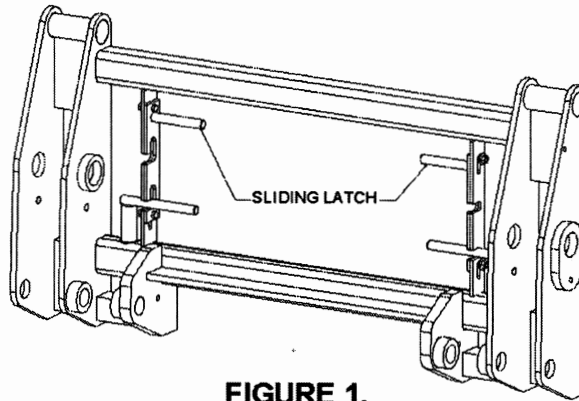

FIGURE 1.
**STEP 1** Install the front mount onto the front casting of the tractor. Tighten all bolts that secure the front mount. See Figure 1.
**STEP 1** Approach the loader slowly and place the tractor close enough to allow the connection of the hydraulic hoses. Connect the hoses to the tractor so that the loader can be operated. See Figure 1.
**STEP 1** *DRIVE ONTO FLAT, LEVEL CONCRETE.* Raise the loader and place the stand legs in the position shown in Figure 1.
1. Raise sliding latches as shown in Figure 1.
3. Rotate QT pins out of the upper notches, lower, and then rotate them into the lower notches on the sliding latches as shown in Figure 1. **NOTE:** If the QT pins do not easily slide thru the lug on the attachment, do not force them. Simply rotate the attachment back and forth slowly with the bucket cylinders of the loader and the QT pins should fall into place. Periodically grease the QT pins and sliding latches.